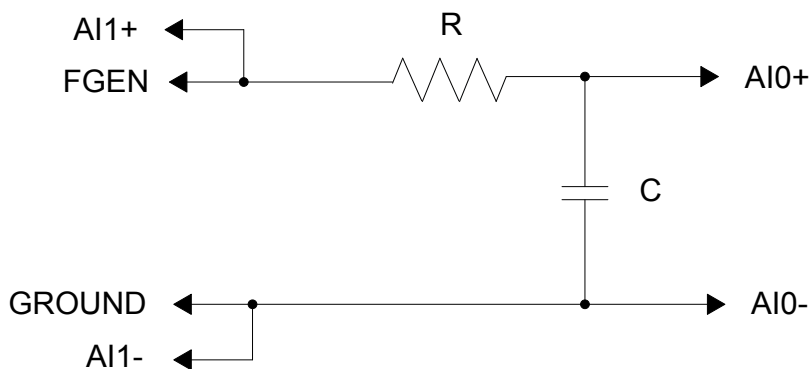

Fig. 11. RC Filter connectivity for AC Characterization.
2. Connect the RC filter circuit on the proto board as shown in Fig. 11. The input signal for the filter is obtained between 'FGEN' and 'GROUND' pins. The input signal is also connected to Analog Channel-0 (between AI1+/AI1-) and the output signal across the capacitor is connected to Analog Channel-1 (AI0+/AI0-). Connections on the Analog Channels 0 and 1 are used for oscilloscope SFP as further explained in the following steps.
1. Retain the circuit configuration from the previous section. Note that the circuit should be setup as shown in Fig. 11.